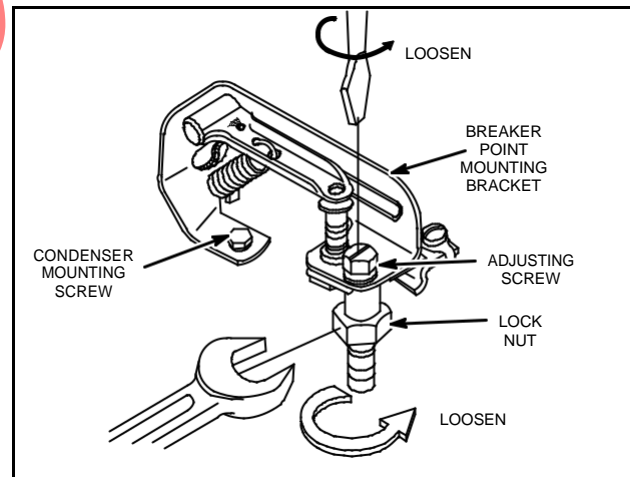

Fig. 16 – Remove Condenser and Points
3. Loosen lock nut, then adjusting screw, Fig. 16.